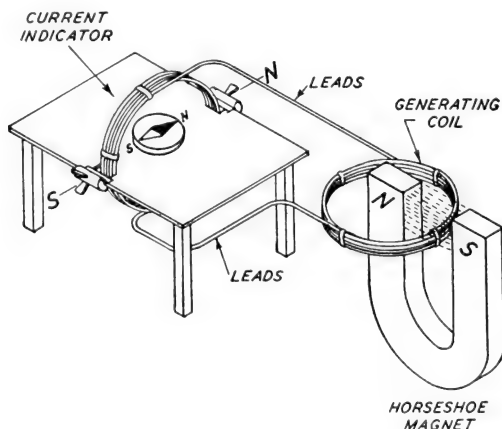

Fig. 11. Diagram Showing Generating Coil, Leads of Coil, and Indicating Instrument
**Experiment in Generating Current.** The only other equipment needed for this experiment is a horseshoe magnet. If possible, get one from a telephone ringer magneto, or from the flywheel magneto of an old Model T Ford. You can buy one from the 10-cent store, but either one of the former would be larger and better. If your first coil will slip over one pole of the horseshoe magnet you have procured, you may use it in this experiment, provided it is wound with several hundred turns of wire. Connect the leads of this generating coil to the leads of the coil of our indicating instrument, Fig. 11. You do not use the battery in this experiment. You use only the generating coil, the horseshoe magnet, and the current indicator. You are now ready to generate electricity with the apparatus set up.
You noticed in Fig. 11 that the deflection of the compass needle was dependent upon the following two things: first, the number of lines of force through which the conductor cut, and second, the time it took, or the rate of speed used, in cutting through them. Now magnetic lines of force are tiny things of themselves, and it takes many, many thousands of them to produce even slight results. In fact, it takes so many of them that *a single conductor has to cut through one-hundred-million of them in one second to produce an electrical pressure of one volt*. This, indeed, is the definition of a volt. *A volt equals 100,000,000 lines of force cut across in one second*. This, of course, is for a single conductor. A coil of two turns needs to cut but half as many to produce a volt. A coil of ten turns, needs to cut but one-tenth as many, and so on. A commercial armature has many turns in its windings, and many generators have two or more separate fields incorporated in their field frames. That is, they have four or six poles instead of two. All of this tends to reduce the speed at which the armature must be driven.